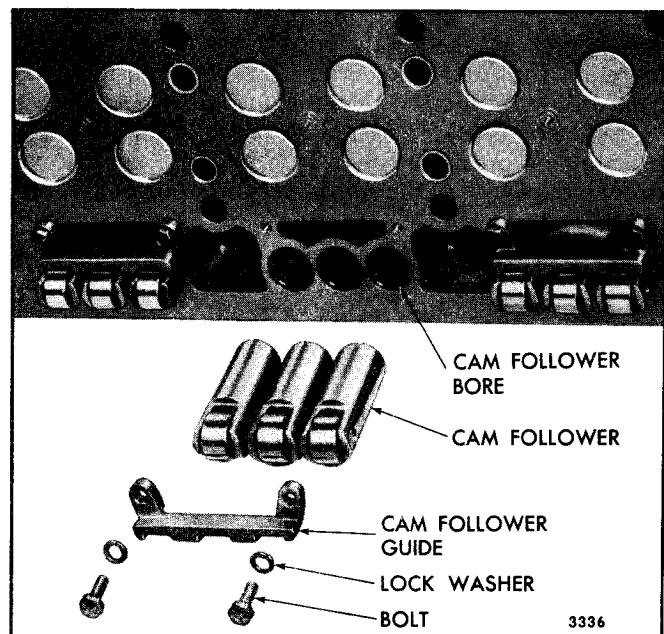

Fig. 3 - Cam Followers and Guide
- Rest the cylinder head on its side and remove the cam follower guide (Fig. 3).